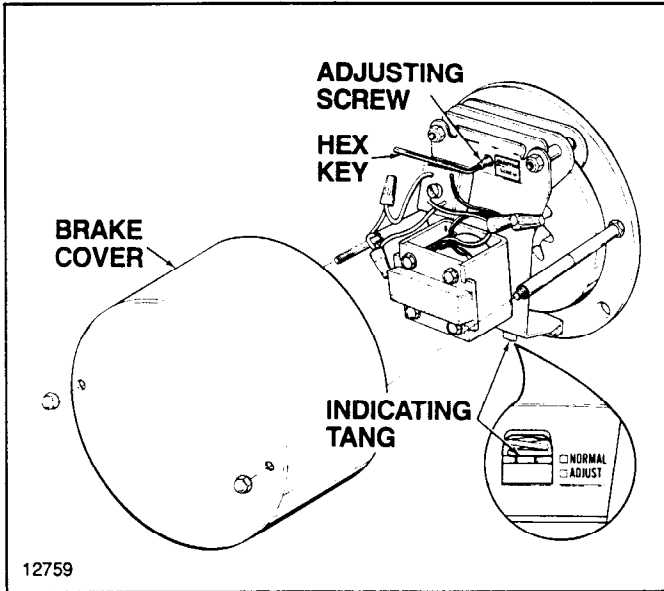

Figure 7-1. Hoist Motor Brake.
- Examine position of indicating tang located below the solenoid coil (Figure 7-1).
- Remove the hex key (1/8" size) from the holster on the cover mounting stud and carefully turn the **ADJUSTING SCREW** (located above the solenoid coil) clockwise. The indicating tang will move a large distance for a small turn of the adjusting screw, therefore turn the screw no more than one quarter turn before checking adjustment.